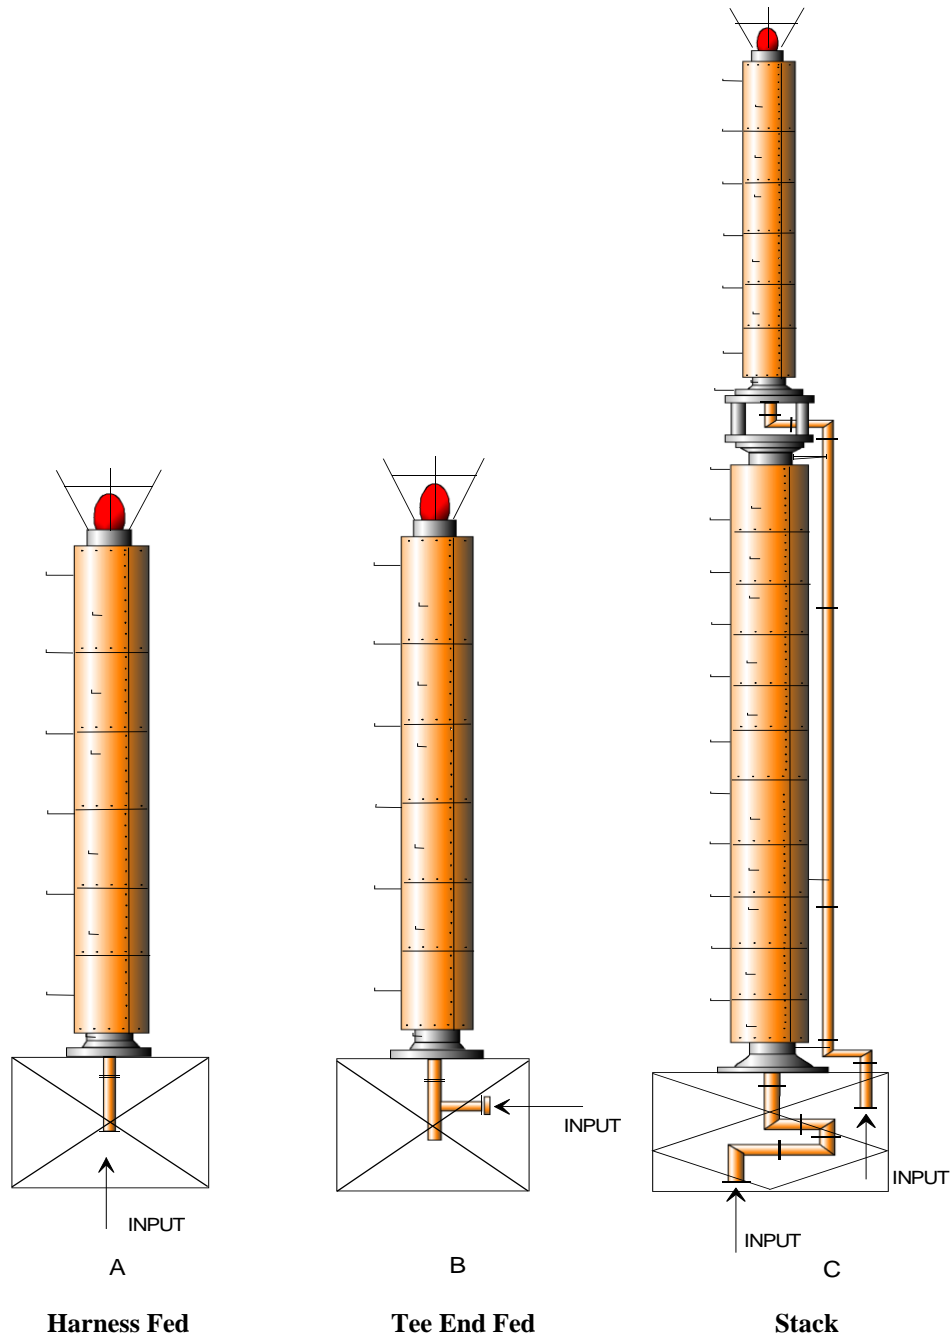

Figure 1 Pylon Antenna Configurations
Dielectric Communications UHF Pylon Television Antennas (TFU) consist of slotted galvanized steel pipes with diameters and wall thickness of proper size to provide the specified electrical and mechanical requirements. There are three basic antenna designs. All three have feed systems connected through a clearance hole in the tower top plate. Figure 1 (A) shows a typical center fed harness antenna, Figure 1 (B) an end fed antenna with input tee and Figure 1 (C) shows a stacked